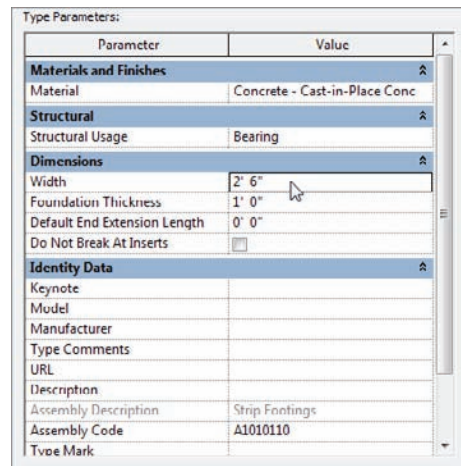

FIGURE 8.57 Changing the width
5. Change the Width setting to 2'-6" (750mm), as shown in Figure 8.57.